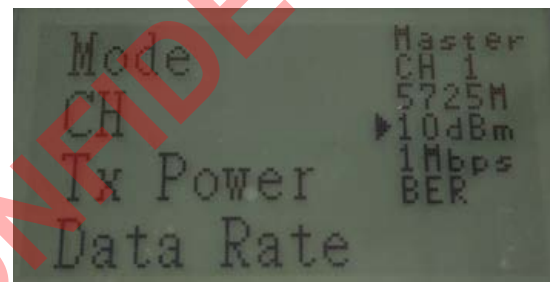

Fig.6
2. Press 'Enter' button, the cursor jumps to Sub Menu as shown in Fig.6.